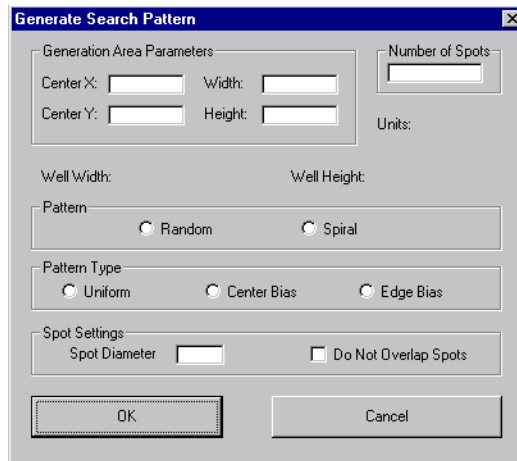

Figure 6-19 Generate Search Pattern Dialog Box
- Click **Menu**, then select **Generate Search Pattern** to open the Generate Search Pattern dialog box (Figure 6-19).